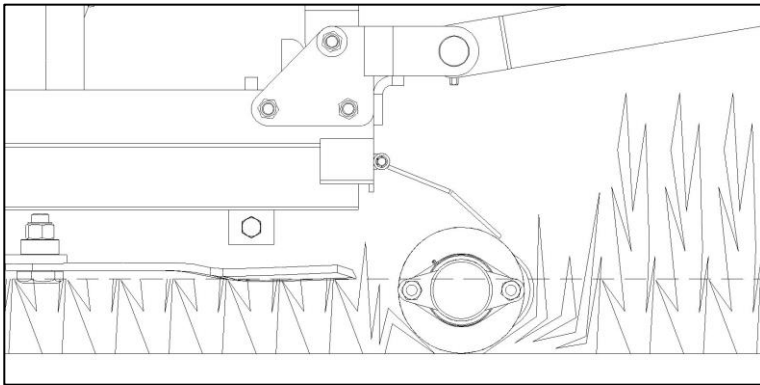

Fig. 1
- ✔ Roller-supported implements travel over the material before cutting, so that the “folding” effect (Fig. 1) can be minimised by controlling material heights.
- ✔ 'n Rollergesteunde implement ry oor die materiaal voordat dit sny, dus kan die “vou”-effek (Fig. 1) verminder word deur materiaalhoogtes te beheer.